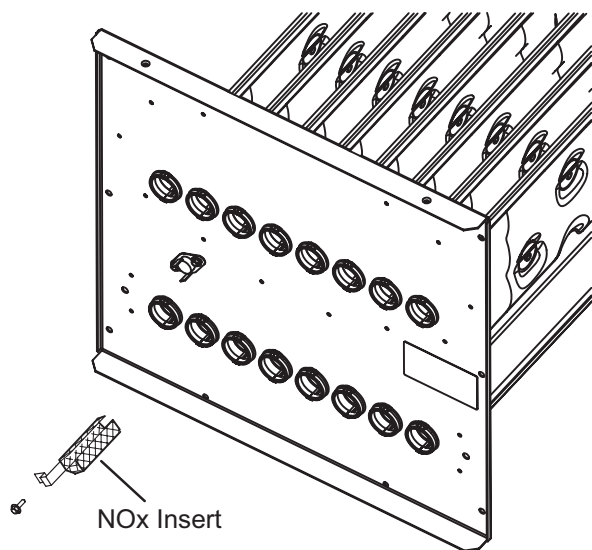

FIGURE 24
- 8 - **NOx units only** - Remove screw securing NOx insert. Remove NOx insert. FIGURE 24.